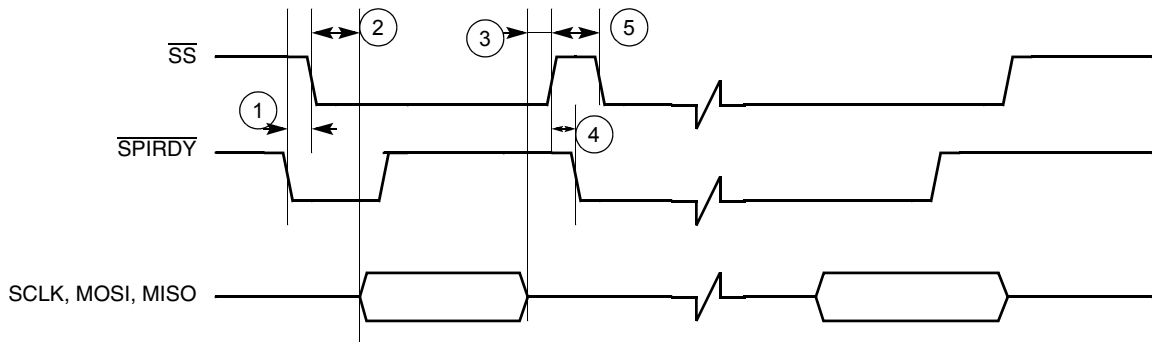
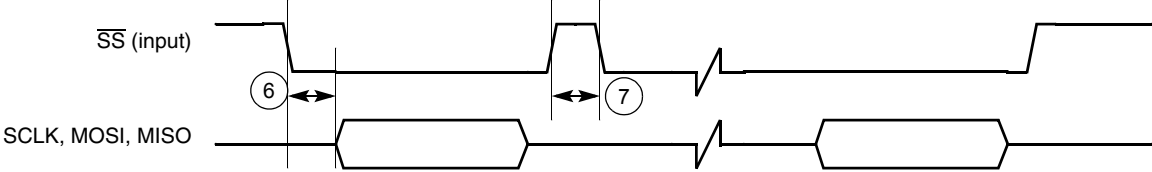

Figure 39. Master SPI Timing Diagram Using $\overline{\text{SPI_RDY}}$ Edge Trigger
Figure 43. Slave SPI Timing Diagram FIFO Advanced by $\overline{\text{SS}}$ Rising Edge
To use the internal transmit (TX) and receive (RX) data FIFOs when the SPI 1 module is configured as a master, two control signals are used for data transfer rate control: the \overline{SS} signal (output) and the SPI_RDY signal (input). The SPI1 Sample Period Control Register (PERIODREG1) and the SPI2 Sample Period Control Register (PERIODREG2) can also be programmed to a fixed data transfer rate for either SPI 1 or SPI 2. When the SPI 1 module is configured as a slave, the user can configure the SPI1 Control Register (CONTROLREG1) to match the external SPI master's timing. In this configuration, \overline{SS} becomes an input signal, and is used to latch data into or load data out to the internal data shift registers, as well as to increment the data FIFO. Figure 39 through Figure 43 show the timing relationship of the master SPI using different triggering mechanisms.
Table 24. Timing Parameter Table for Figure 39 through Figure 43